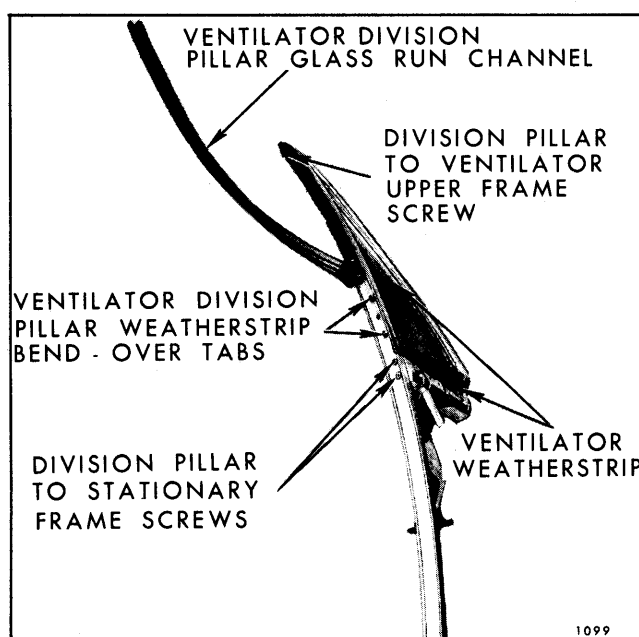

Fig. 6-98—Rear Door Ventilator Assembly -
2. Remove ventilator division pillar glass run channel strip assembly by disengaging lower end and pulling strip upward (Fig. 6-98).
3. Remove division pillar to ventilator stationary frame attaching screws (Fig. 6-98).
4. Remove division pillar to ventilator upper frame (and rubber bumper) attaching screw (Fig. 6-98) and separate ventilator frame and division channel.
6. Straighten division pillar weatherstrip bend-over tabs (Fig. 6-98), and remove weatherstrip.